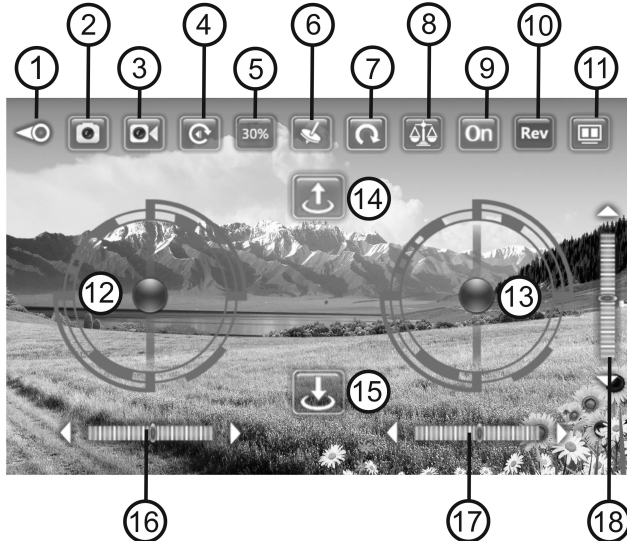

Figure 15 (description of the symbols 1 - 11, see figure 14)
After starting the App, various operating elements will be displayed on your Smartphone in addition to the camera image. In addition to the operating elements for the camera that you already know (see chapter 13, items 1 - 4), the control elements of a remote control transmitter as well as a symbol for automatic start and automatic landing are "symbolically" displayed (figure 15, items 12 - 18).
- Put the quadcopter in a suitable starting location for starting. Also observe the notes in chapters 11 and 12. Now select the symbol "Auto-Start" (14). The rotors will start and the model will lift off of the ground and hover in front of you at a height of approx. 1.5 metres.
→ The two control elements (figure 15, items 12 + 13) in your display represent the control levers of a remote control transmitter and can be controlled in the same manner. Hold the Smartphone with both hands. Touch either "point" with one finger each (best with your thumbs) and control the model as explained for controlling it with a remote control transmitter in chapters 11 and 12.
In the basic configuration, the App is set to "30%" (figure 15, item 5). This corresponds to beginner's mode (also see chapter 11). The control functions are limited in their effects.
Pushing the arrow (figure 15, item 7) can make the model do a flip (a 360° turn). For this, put the quadcopter into a stable hover flight at an altitude of at least 1.5 metres at sufficient distance from the pilot and any obstacles. Select the arrow symbol (figure 15, item 7). Then move the right control element forward/back/to the left or right (one direction only!). The model will now flip in that direction. This function works according to the function on the remote control transmitter. Therefore, observe the notes in chapter 12 as well when using this function.
In order to control your model with the position sensor, you first need to make all the starting preparations described in chapter "Control with the Operating Elements of the App". When this has been successfully completed, push the radio tower icon (figure 15, item 6) until it lights up. Control via position sensors is now activated.
Hold the Smartphone horizontally in both hands. Last, push the "Auto-Start" symbol again (figure 15, item 14). The quadcopter will start up at once and float in front of you. Continue to control height and turn around the vertical axis with the left control element in the display (figure 15, item 12).